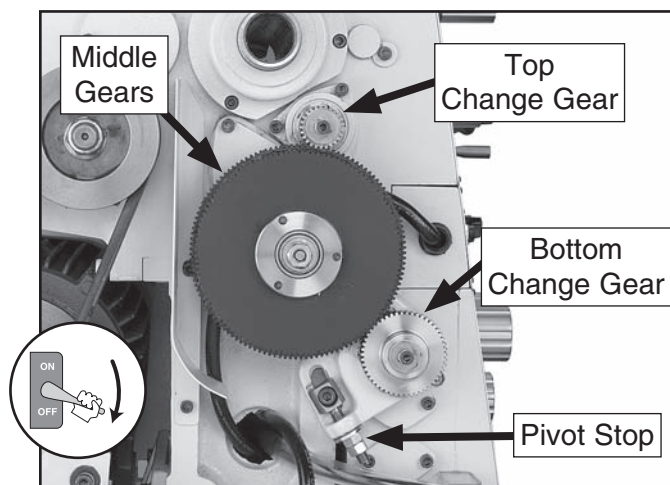

Figure 81. Change gear components.
- Remove the headstock left cover to access the change gears (see **Figure 81**).